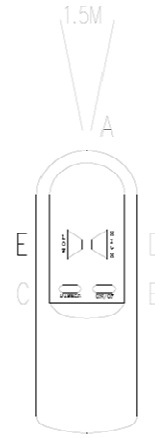

FIG 9
4. At a distance of 5 to 6 feet, point the remote control directly towards the bottom right hand side of the fireplace. (Figure 9)